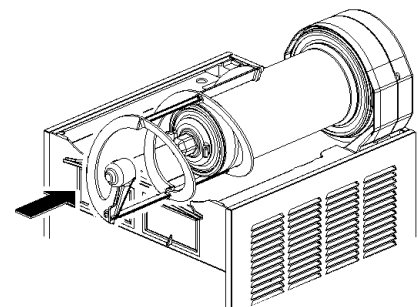

figure 15
- 6 Install the outer spiral. Slide it over the evaporator until its hexagonal front notch engages with the hexagonal exposed end of the magnetic outside rotor (see figure 15).